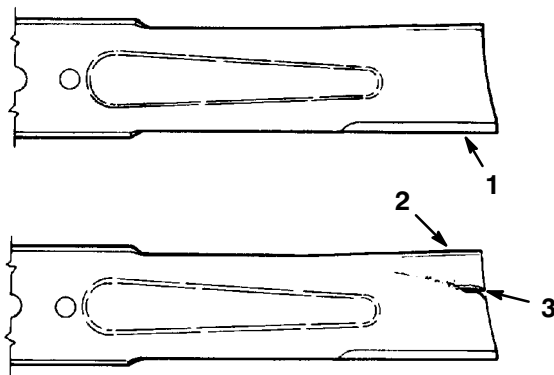

Figure 10
1. Inspect the cutting edges (Fig. 10). If the edges are not sharp or have nicks, remove and sharpen the blades. Refer to Sharpening the Blades on page 13.
2. Inspect the blades, especially the curved area (Fig. 10). If you notice any damage, wear, or a slot forming in this area (item 3 in Fig. 10), immediately install a new blade.